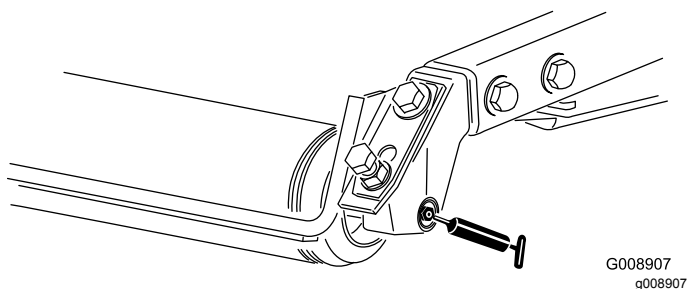

Figure 52
- Rear roller bearings (2 per cutting unit) (Figure 52)